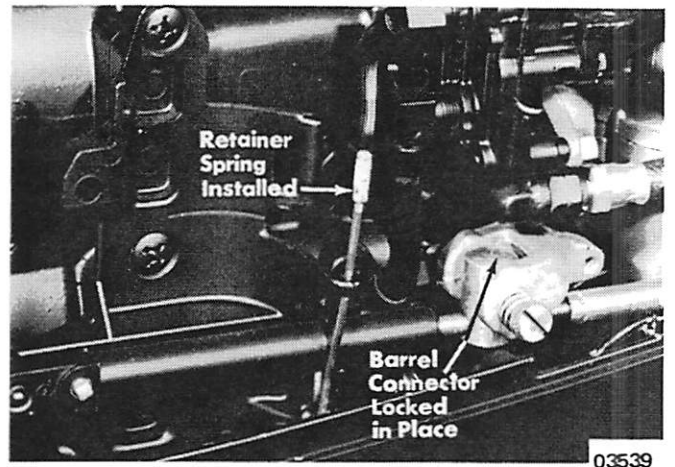

Figure 4. Shift Cable Installed - 1968-thru-73
- b. 1968-thru 73 Models: Place hole in end of cable guide over peg on mounting bracket. Fasten cable end in place by latching shift cable retainer spring. (Figure 4)